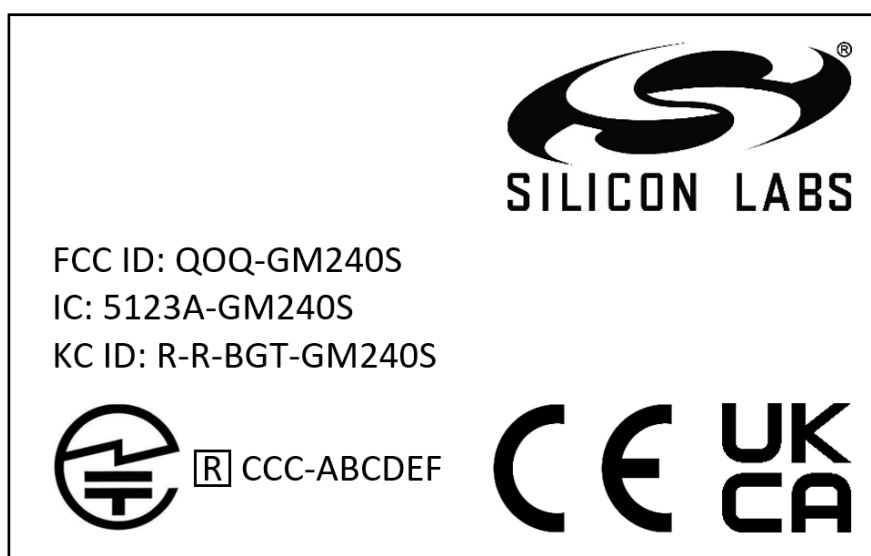

Figure 2: Label of xGM240S22A modules, dedicated to carry information concerning regulatory certifications
- The sticker label in figure 2 is meant for the anti-static bag containing the modules' reel or tray: it is a way to convey the certification-related information as closely as possible to the modules, in addition to the same information already available in the user manual / datasheet.